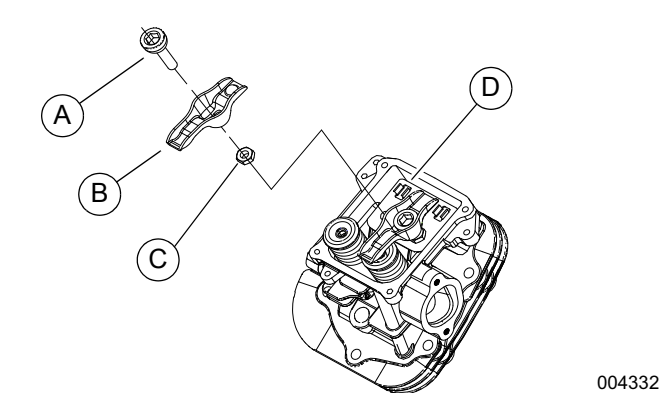

Figure 7-3. Remove Rocker Arm Assemblies
1. See Figure 7-3. Unlock jam nuts and remove two ball studs and rocker arm assemblies.